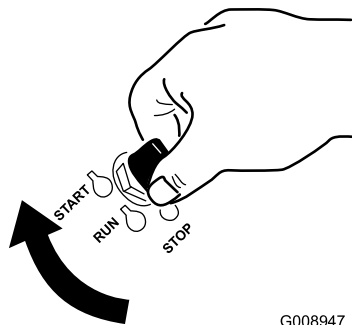

Figure 17
1. Turn the ignition key to the Start position (Figure 17). When the engines starts, release the key.
7. Turn the ignition key to the start position (Figure 17). When the engines starts, release the key.